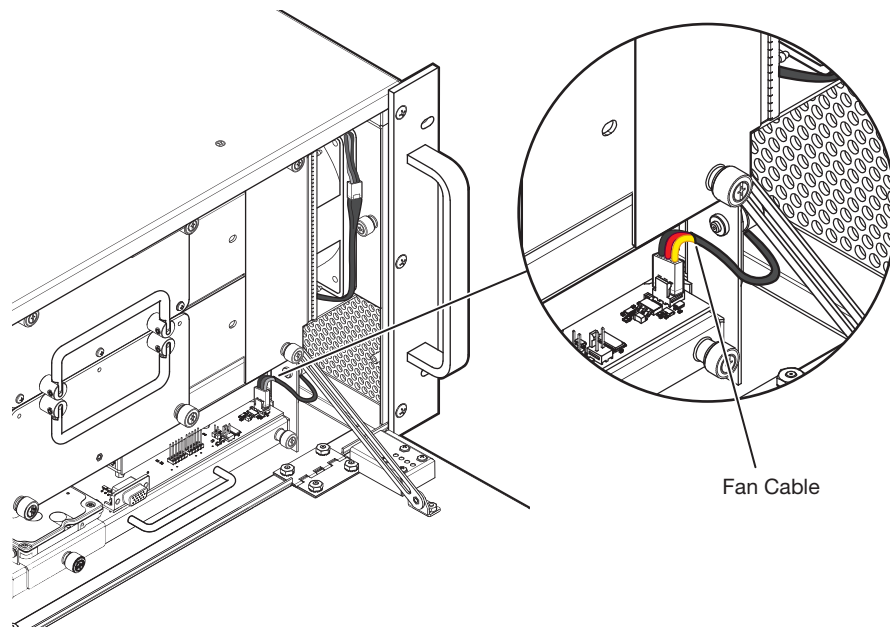

Figure 113. Unplugging the Fan Cable
2. Unplug the lower fan cable from the 3-pin connector at the right front corner of the SBC assembly (see figure 113).
4. Attach the lower fan cable to the 3-pin connector in the right front corner of the SBC (see figure 113 on page 114 for the location).